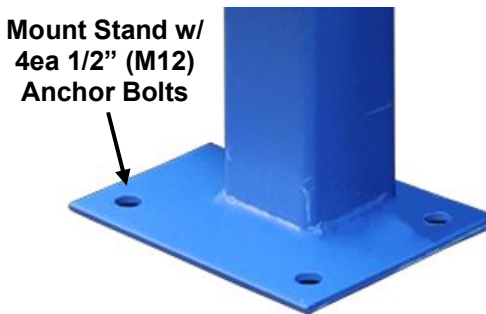

Fig. 4
- 2) Using the stand base structure holes as a guide, drill holes for the **4ea 1/2" (M12)** anchor bolt hole locations first, using a rotary hammer drill and 12mm (1/2") masonry drill bit. **Fig. 4.**